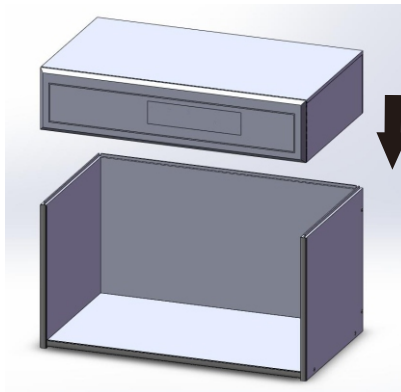

Fig. 3 Install upper cover
3. Put the upper cover on the mounted box and clip the slot exactly.(Fig. 3)